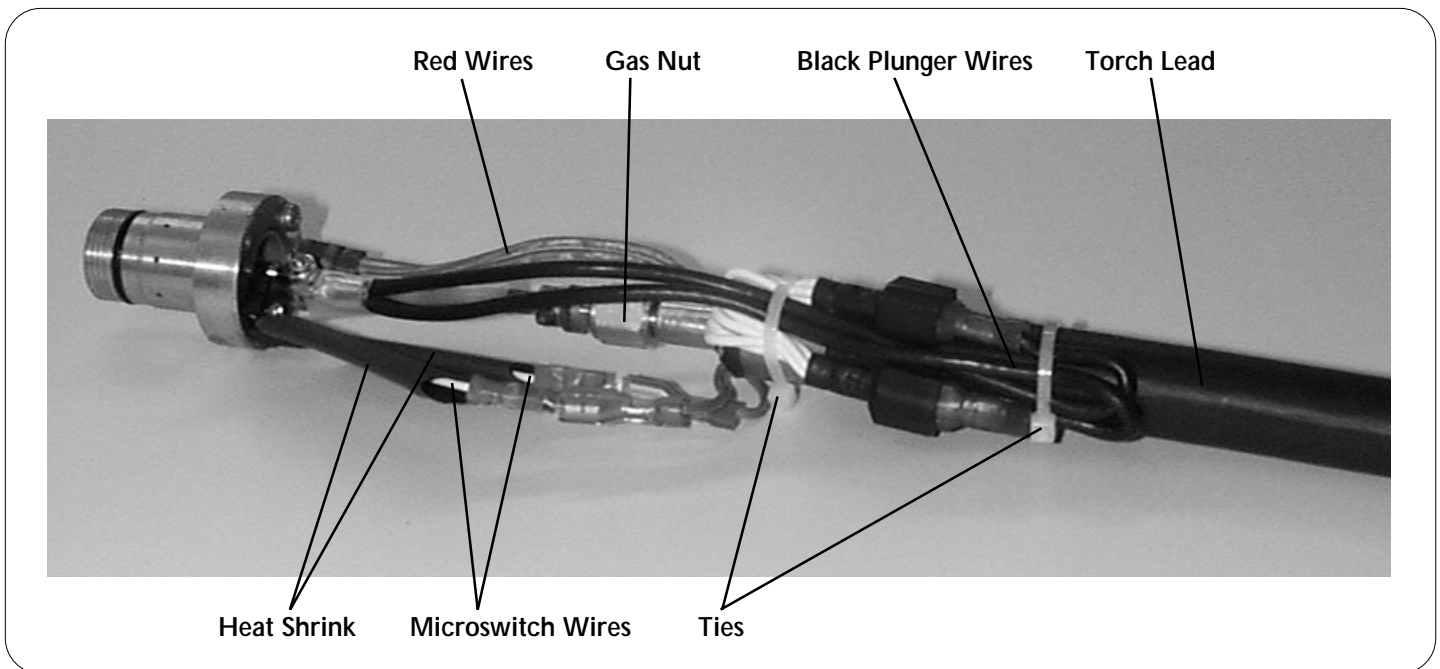

Figure 2 PAC121M Torch Body Replacement
6. Tie the plunger wires back on the torch lead as shown in Figure 2. With the ties in place and snugged down, adjust the wires so that there is 1/4" (6 mm) of slack between the wires and the gas nut.